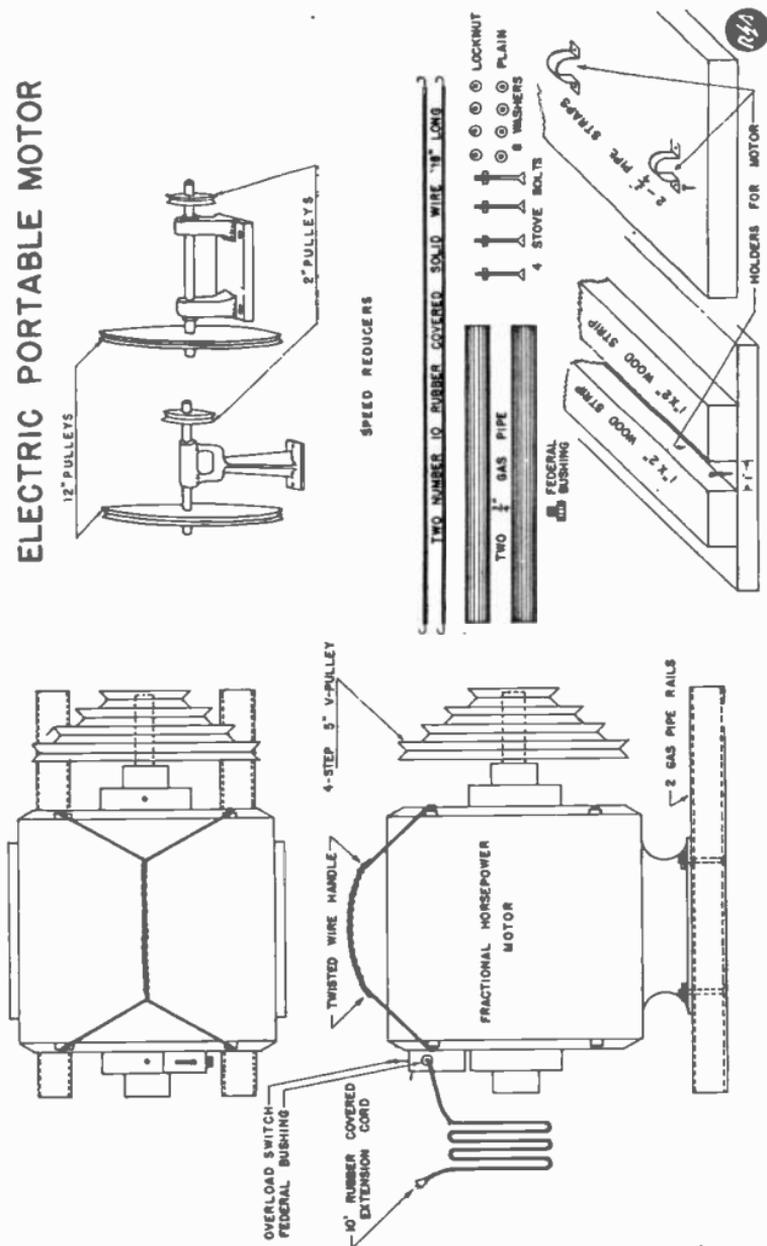
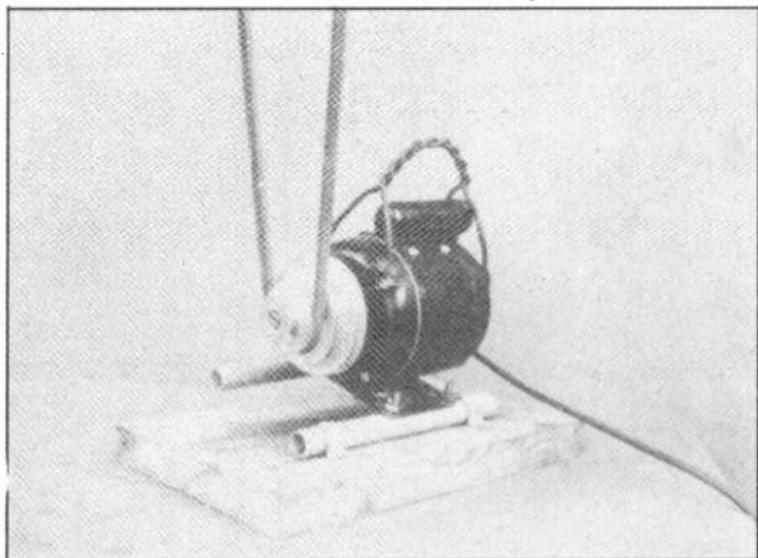

Figure 26.
Figure 28.—This motor base is kept in place by pipe straps. Note that the driven equipment is at a high angle above the motor.
1. Provide materials	Secure the following materials: 1 piece of No. 10 rubber-covered wire 36" long. 2 pieces $\frac{3}{4}$ " galvanized gas pipe, lengths equal to over-all width of motor. 4 $\frac{1}{4}$ " x $1\frac{1}{2}$ " flat-head stove bolts. 4 locknut washers to fit bolts. 4 plain washers to fit bolts. 1 piece rubber-covered extension cord equipped with plug, federal bushing for $\frac{1}{2}$ " knockout and, if desired, a combination switch with thermal cutout. 1 5" 4-step V-pulley with shaft opening same size as shaft of motor. 1 standard with bearings and shaft. See speed reducers, figure 26. 1 12" V-pulley to fit shaft of standard. 1 2" V-pulley to fit shaft of standard. 2" x 12" plank for holder and speed-reducer bases. 2 $\frac{3}{4}$ " pipe straps. See figures 26 to 34.
2. Mount pulley on shaft	Push 5" 4-step V-pulley on shaft of motor. Tighten set screw. See figure 28.
See figure 26. Remove the insulation from both ends of the wires to form hooks. Flatten these hooks into washer form. Twist the 2 pieces of wire tightly together until about 6" extend on each end. Fasten wire to motor to form handle as shown in figure 28.
6. Make motor rail-holders Fasten two $\frac{3}{4}$ " pipe straps to a piece of 2" plank as shown in figure 28. This type holder will allow the motor to be slipped into place and will keep the motor in place even when the driven equipment is directly overhead.